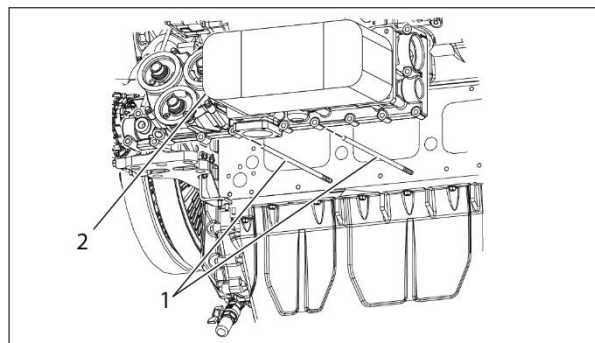
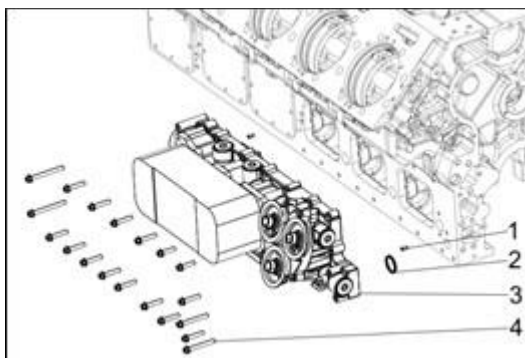
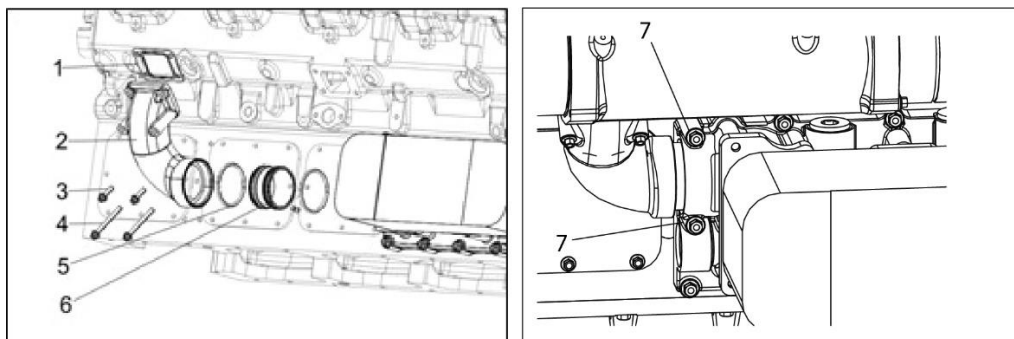

Figure 159
Figure 160
Figure 164
2. Install the two threaded alignment rods (Figure 159, item 1) into any two of the holes that will be used for the fixed bolts (Figure 160, item 4).
3. Install the oil cooler seat (Fig 160, item 3), install the locating pin (Fig 160, item 1) firstly, pay attention to the O-ring (Fig 160, item 2). Install and tighten the fixed bolts (Fig 160, item 4), except the remaining two where the two threaded alignment rods are installed. After the bolts are tightened, remove the two threaded alignment rods and install and tighten the remaining fixed bolts.
8. Install the oil cooler water outlet pipe (Fig 164, item 2), fit the O-ring (Fig 164, item 5) to the joint pipe (Fig 164, item 6), connect the water outlet pipe with the oil cooler, tighten the fixed bolts (Fig 164, item 3) with washers (Fig 164, item 1). Torque bolts to 35 N·m. Tighten remaining fixed bolts (Fig 164, item 7) left loose in Figure 160.